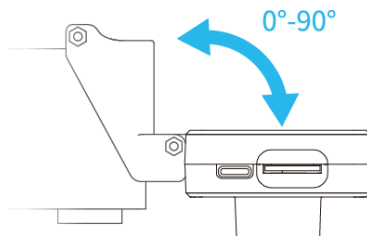

Figure 3.10 Adjust angle of AI camera
Step 5 Adjust the angle of AI camera (range: 0° ~ 90°), as shown in Figure 3.10.